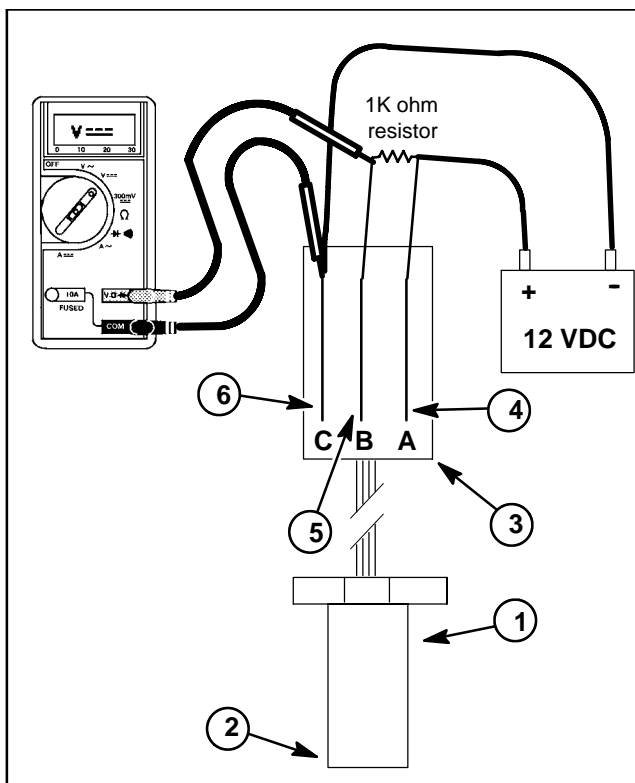

Figure 18
3. Using a +12 VDC battery, a multimeter, a 1K ohm resistor and appropriate jumper wires, connect the battery and multimeter to the speed sensor using Figure 18 as a guide.